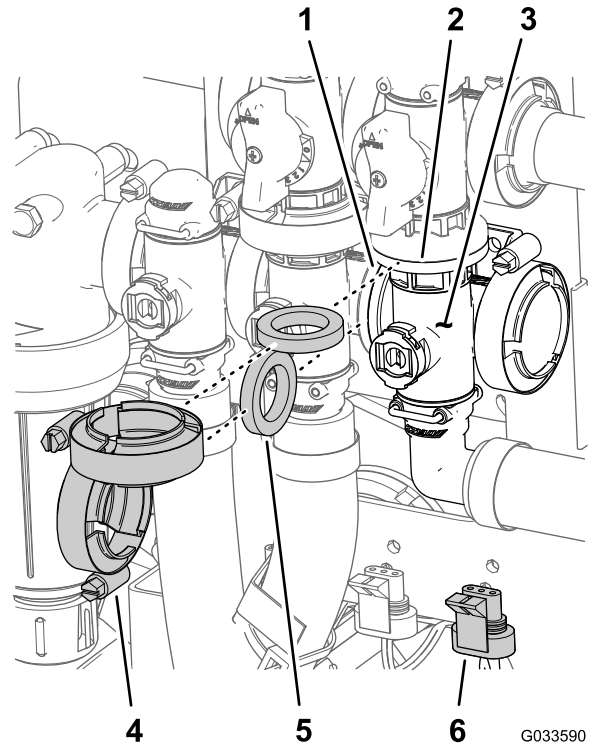

Figure 117
- Remove flange clamps and gaskets that secure the manifold for the master-boom valve (Figure 117) to the master-boom bypass valve, agitation valve, and 90° flanged elbow (at the end of the hose for the flow meter).